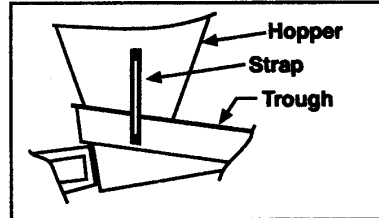

FIGURE 10: SUPPORT STRAP FOR INSTALLED ASSEMBLY
1. Weld straps to the hopper and trough to support the feeder and material in the hopper while the springs are being replaced. (Refer to Figure 10)